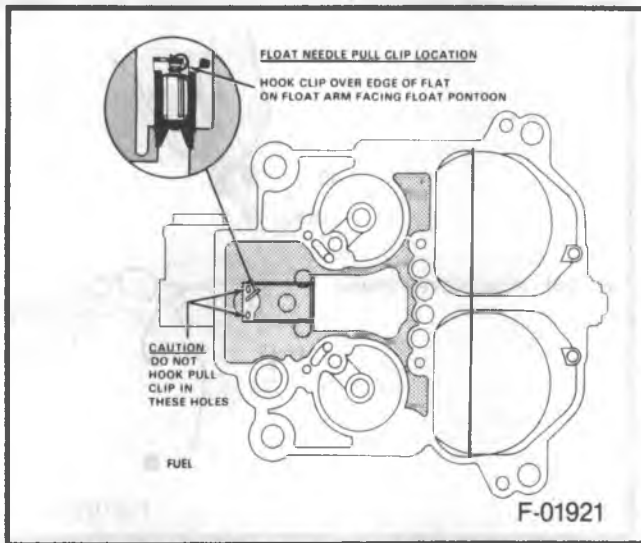

Figure 35 - Float Needle Pull Clip Location
- A. Float needle pull clip (238) to float needle (239).
- B. Float needle onto float lever as shown in Figure 35.
- C. Hinge pin (236) through float lever.